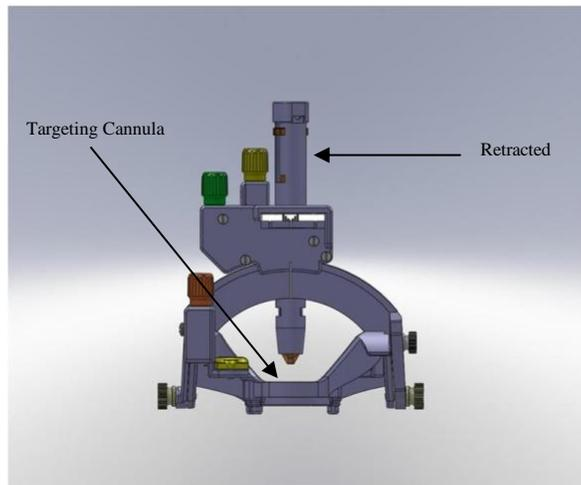

Figure 17: Targeting Cannula positioning
- 27. Slide the Targeting Cannula to the retracted position. **See Figure 17.**